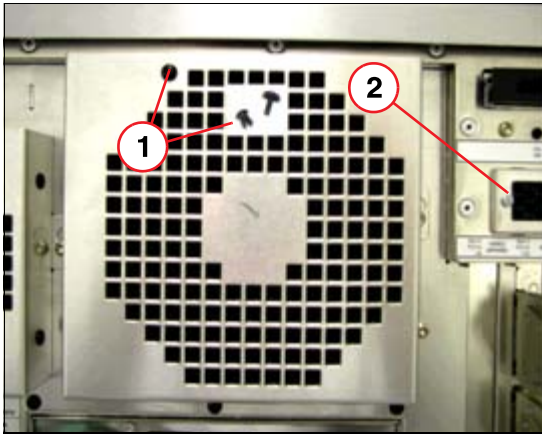

Fig. 12: Mounting of filter pads
- Remove the plastic, expanding rivet of the fan cover with a knife (1/Fig. 12 / p. 44). This rivet is only a transportation lock and must not be installed again.
- Loosen the Phillips screw (2/Fig. 12 / p. 44) on the frame for the small filter pad (111mm x 21 mm).